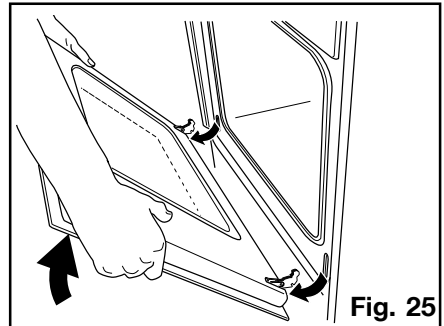

Fig. 25
4. Hold the door by the side edges and close it slowly but not COMPLETELY (Fig. 25).
5. Pull the door forward, removing it from its seat (Fig. 25).